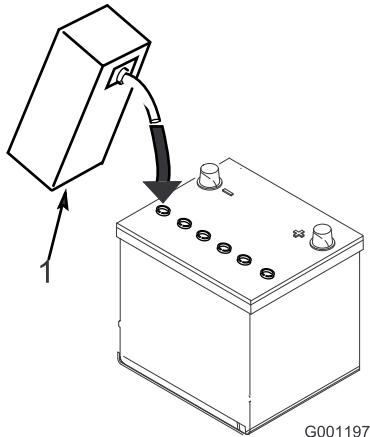

Figure 5
3. Carefully fill each cell with electrolyte until the plates are covered with about 1/4 inch (6 mm) of fluid (Figure 5).
4. Allow approximately 20 to 30 minutes for the electrolyte to soak into the plates. Fill as necessary to bring the electrolyte to within about 1/4 inch (6 mm) of the bottom of the fill well (Figure 5).